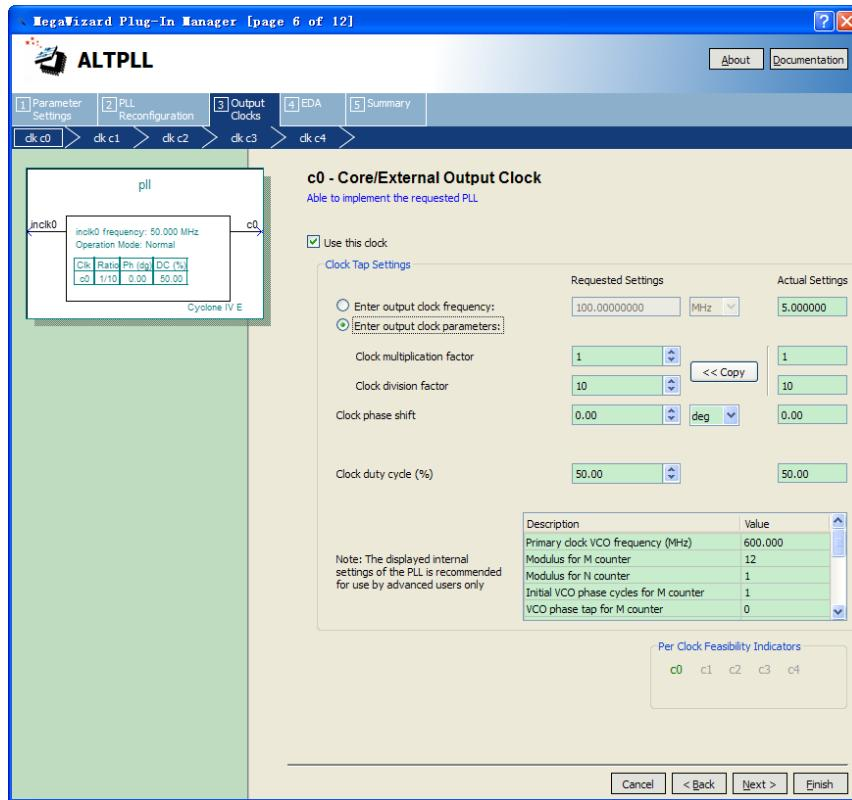

Figure 6-23 MegaWizard Plug-In Manager [page 8 of 14] Selections
8. Set the Clock division factor to 10, as shown in Figure 6-23.